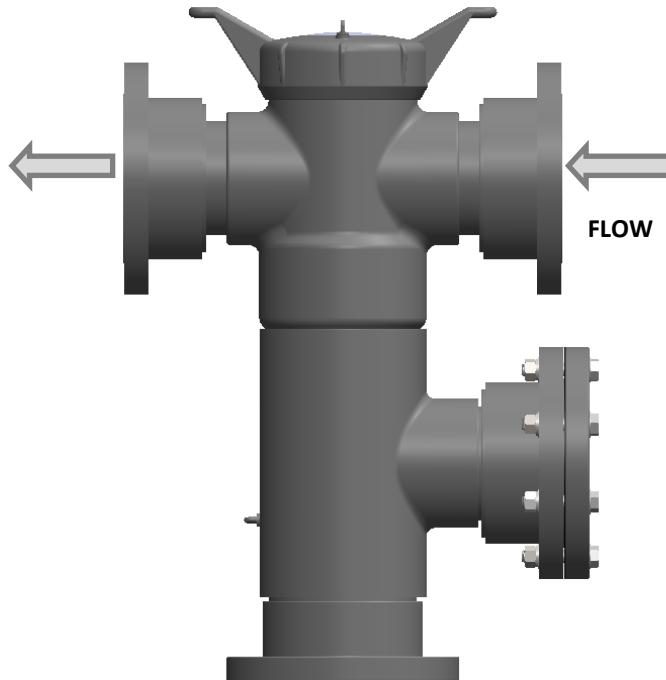

Fig. 2: Straight Flow Connection
- 1.3.1.3. Verify inlet and outlet ports, desired flow configuration, and position the strainer in line accordingly. The blind flange may need to be moved depending on desired flow connection, see figures 2 and 3.